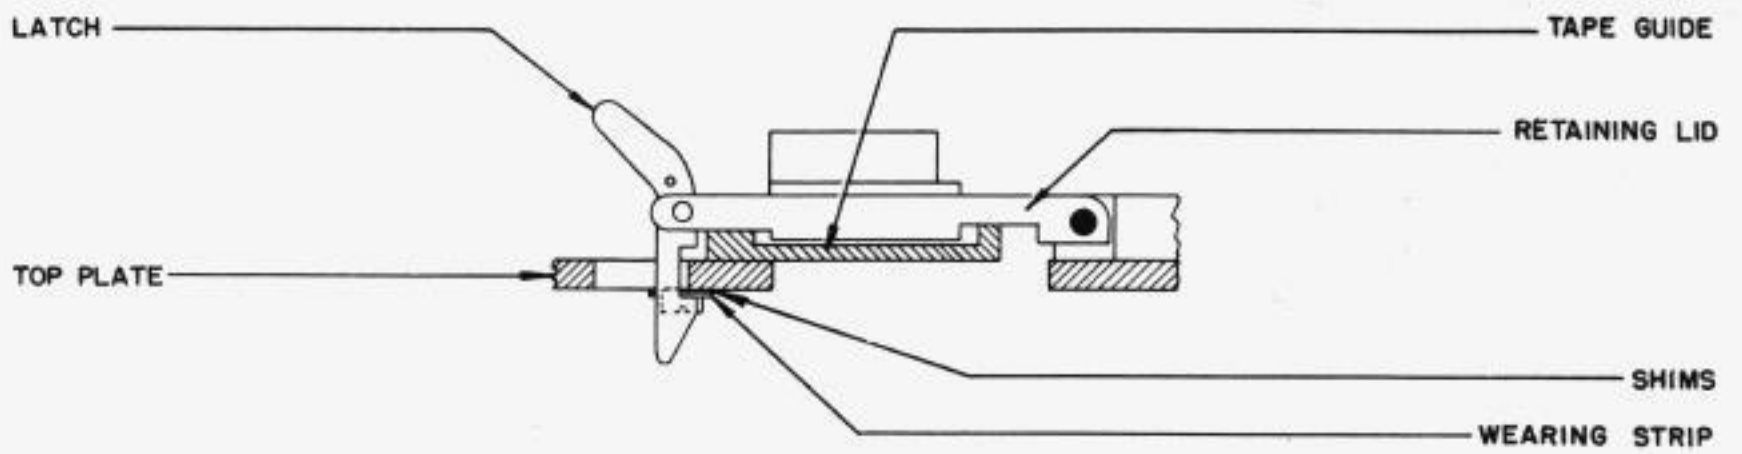

FIGURE 19.1
c. TAPE RETAINING LID LATCH WEARING STRIP SHIMS (Figure 19.1)
- h. RETAINING LID LATCH SPRING (Figure 19.1)